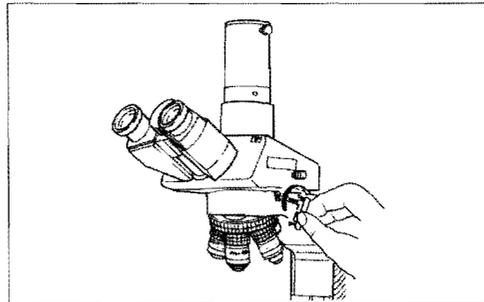
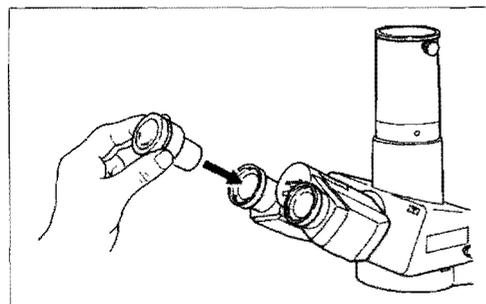

Fig. 2-14
Fig.2-15
⑨ Mounting the Trinocular Eyepiece Tube
- Loosen the eyepiece tube clamp screw sufficiently using the hexagon wrench. (See ⑭.)
- Insert the circular dovetail of the trinocular eyepiece tube into the circular dovetail of the eyepiece tube mount. Fasten it with the eyepiece tube clamp screw (Fig. 2-14).
⑩ Mounting the Eyepiece
- Insert the eyepieces into the sleeves of the trinocular eyepiece tube by engaging the three grooves of the eyepiece with the three protrusions of the sleeve (Fig. 2-15).